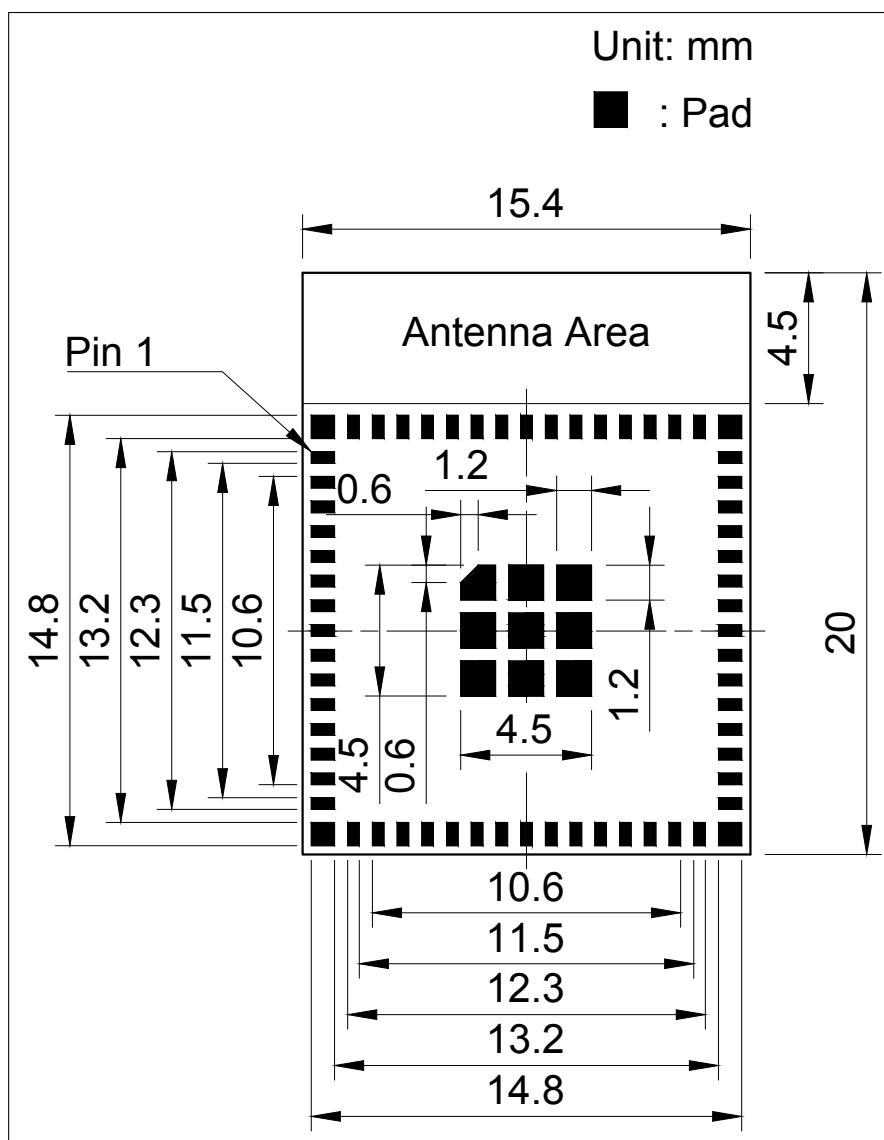
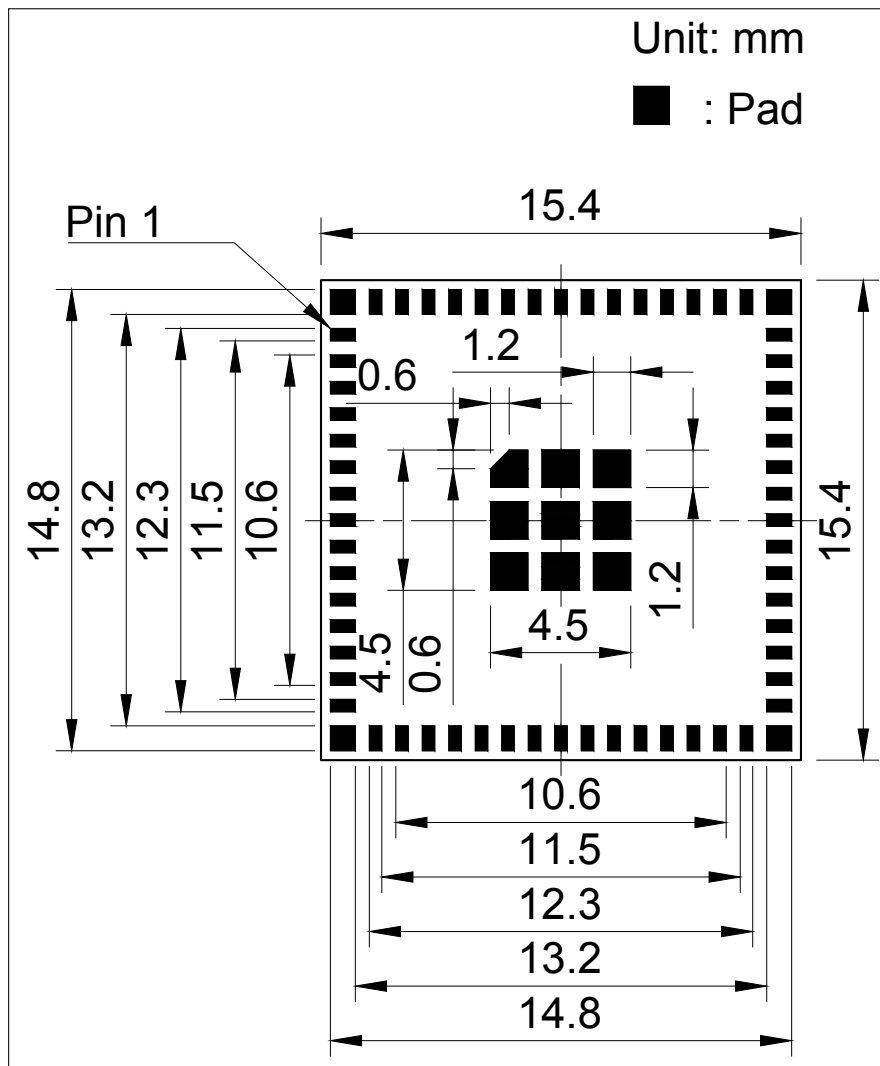

Figure 10: ESP32-S2-MINI-1 Recommended PCB Land Pattern
Figure 11: ESP32-S2-MINI-1U Recommended PCB Land Pattern
- Figures for recommended PCB land patterns with all the dimensions needed for PCB design. See Figure 10 *ESP32-S2-MINI-1 Recommended PCB Land Pattern* and Figure 11 *ESP32-S2-MINI-1U Recommended PCB Land Pattern*.
- Source files of recommended PCB land patterns to measure dimensions not covered in Figure 10 and Figure 11. You can view the source files for ESP32-S2-MINI-1 and ESP32-S2-MINI-1U with Autodesk Viewer.